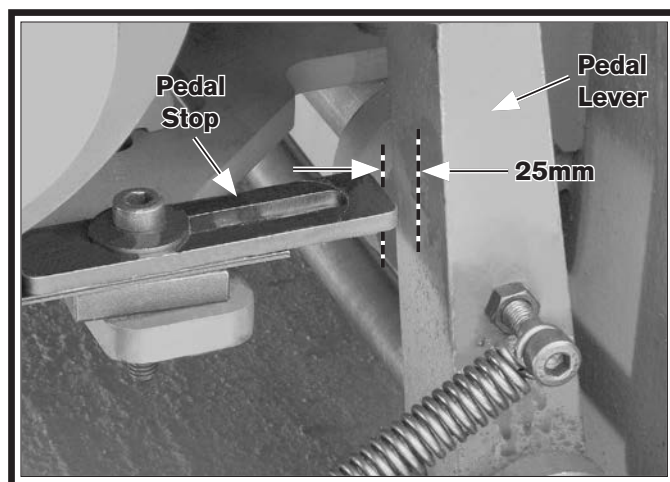

Figure 136. Brake pedal travel adjustment.
8. Adjust the pedal stop approximately 25mm away from the pedal lever (see **Figure 136**), then tighten the pedal stop cap screw.